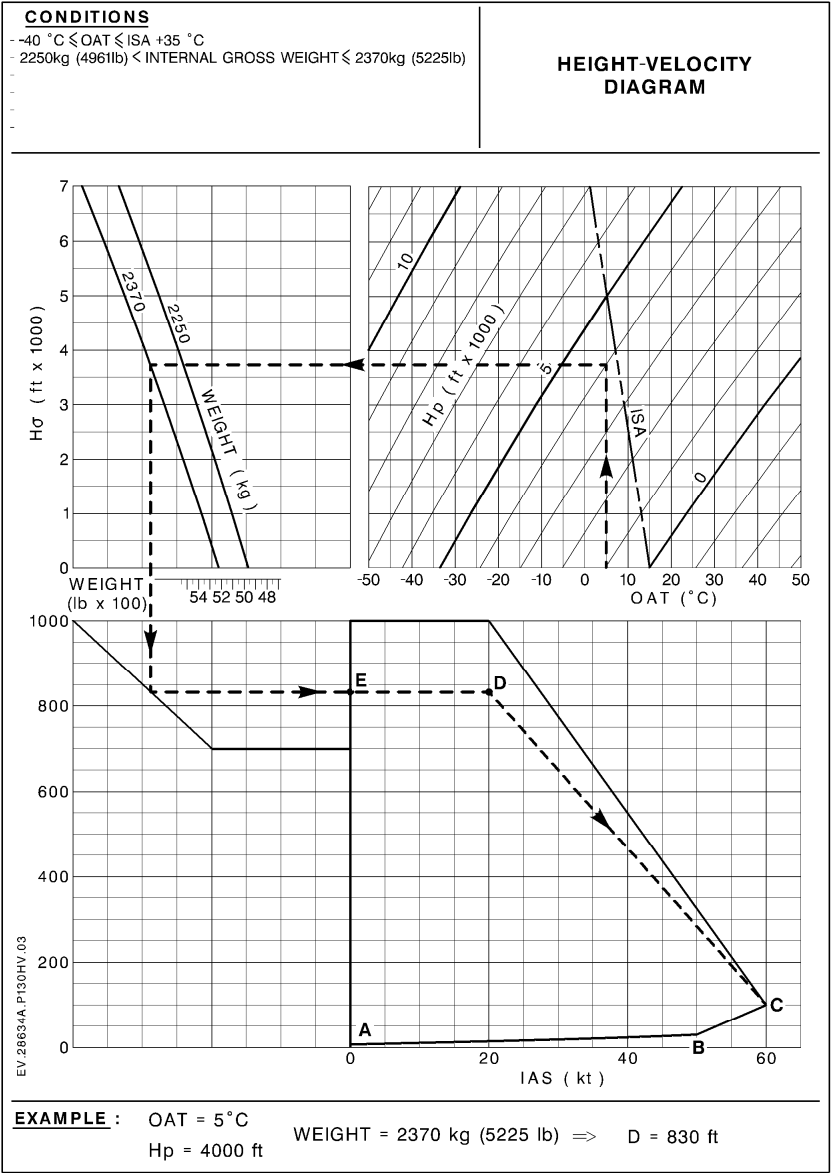

Figure 1
- Refer to pages SUP.28 pages 4 and 5 (Figure 1).
The avoidance zone is defined by five points: A, B, C, D, E (refer to Figure 1).